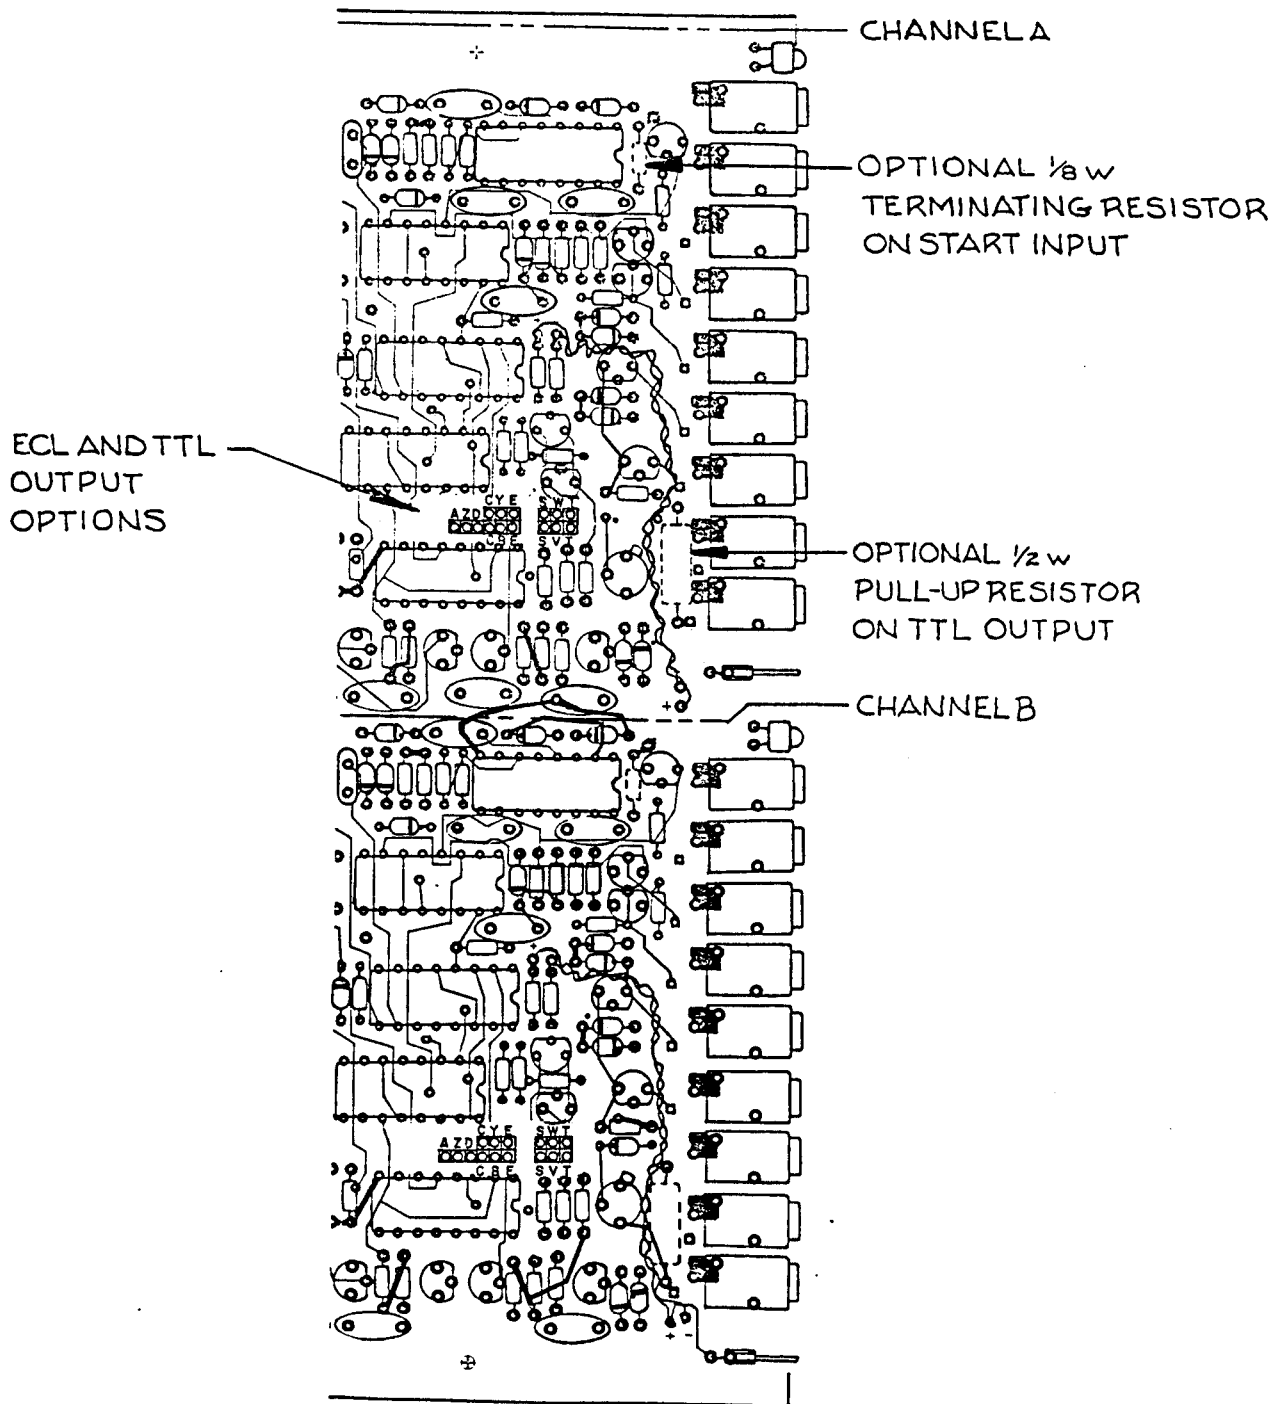

Figure 1
The following options are made available to the user, see Figure 1. They are located at the front panel end of the main pc board. Note that there are two identical sections each taking up half of the board space. Channel A (B) is located at the top (bottom).